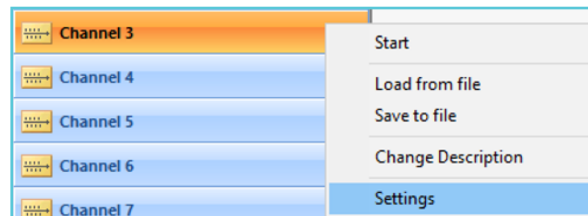

Figure 3.3.9 Editing a protocol in a specific channel
E) 'Settings': Will display the Stimulation guide to create a protocol with defined settings for ONLY a single channel. In figure 3.3.9 below is an example for Channel 3, clicking on 'Settings' and altering the stimulation protocol, will change the stimulation protocol ONLY for Channel 3 whilst the others will remain unchanged unless individually edited as described here